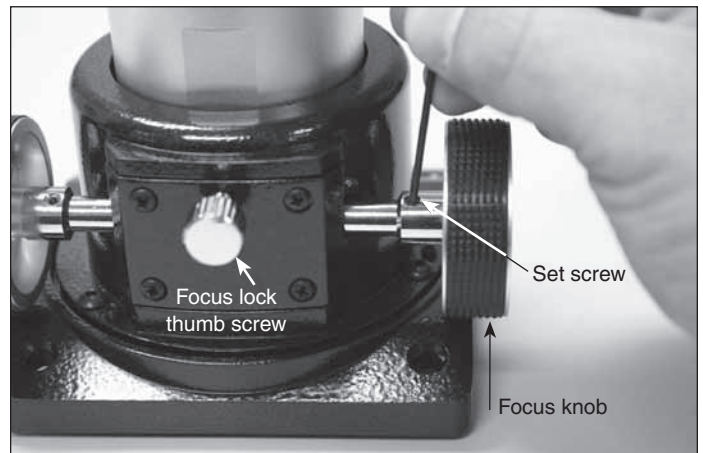

Figure 2. To remove the focus knob from the focusing shaft, first loosen the set screw on the knob’s stem.
1. Remove the focus knob from the right-hand side of the focuser. This is done by loosening the set screw that connects the knob to the focusing shaft (Figure 2). Use the supplied 1.5mm hex key to do this. After the set screw is loosened, simply pull the knob off of the focusing shaft.
2. Remove the focuser’s locking thumb screw. This is the chrome, knurled thumb screw that locks the focuser drawtube in place (see Figure 2).